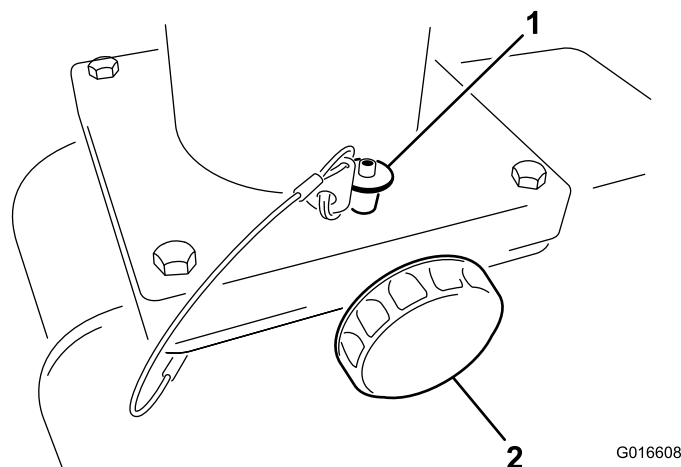

Figure 10
1. To rotate, loosen the clamp knob, then press the spring-loaded button on the locking pin handle in, and pull the locking pin from the chute plate (Figure 10).